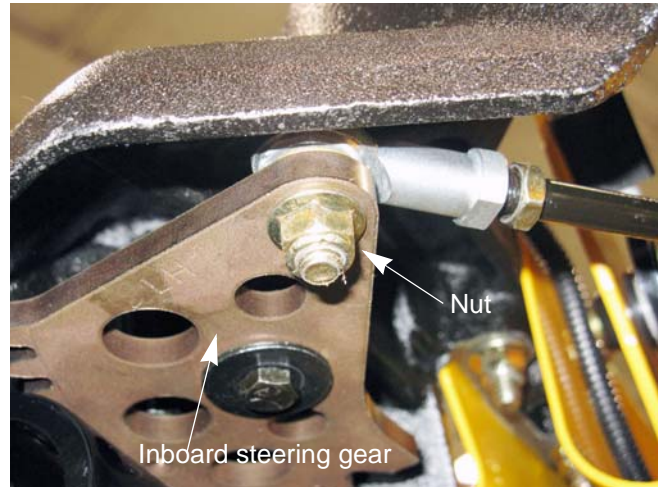

Figure 5.16
2. Remove the nut from the bolt that holds the drag link to the inboard steering gear using a pair of 9/16" wrenches. See Figure 5.16.